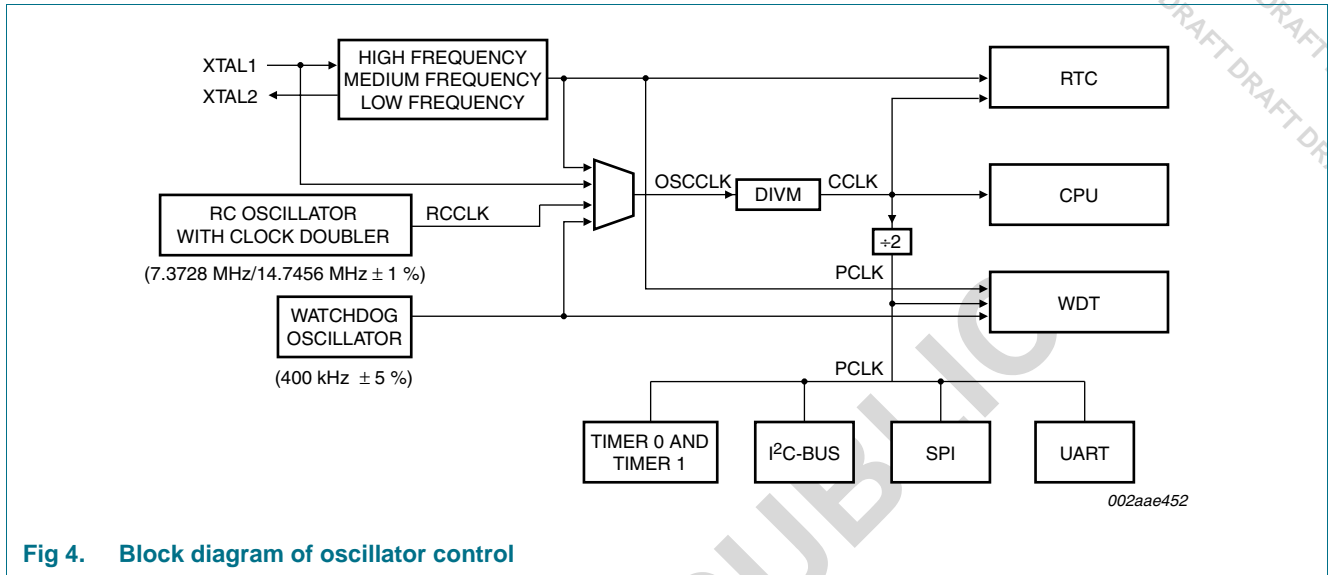

Fig 4. Block diagram of oscillator control
**OSCCLK** — Input to the DIVM clock divider. OSCCLK is selected from one of four clock sources (see Figure 4) and can also be optionally divided to a slower frequency (see Section 7.11 “CLK modification: DIVM register”).